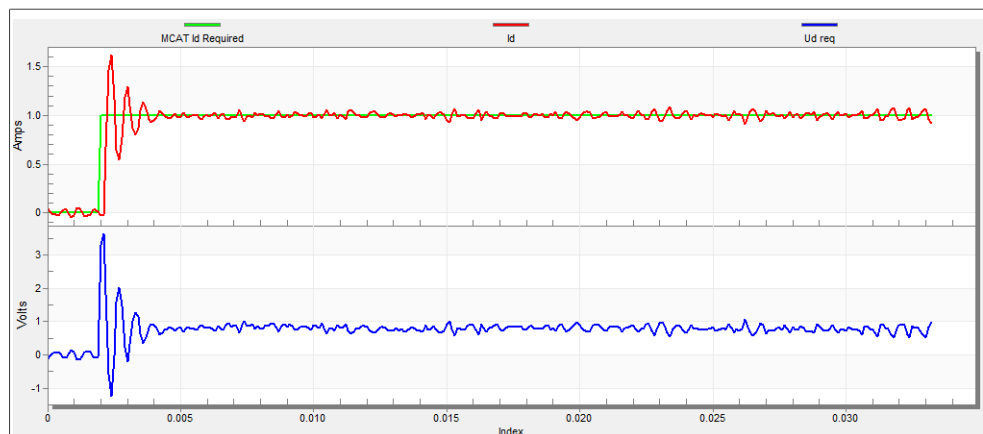

Figure 24. Fast step response of the Id current controller
- The loop bandwidth is high (700 Hz) and the response time of the Id current is very fast, but with oscillation and overshoot (see Figure 24).